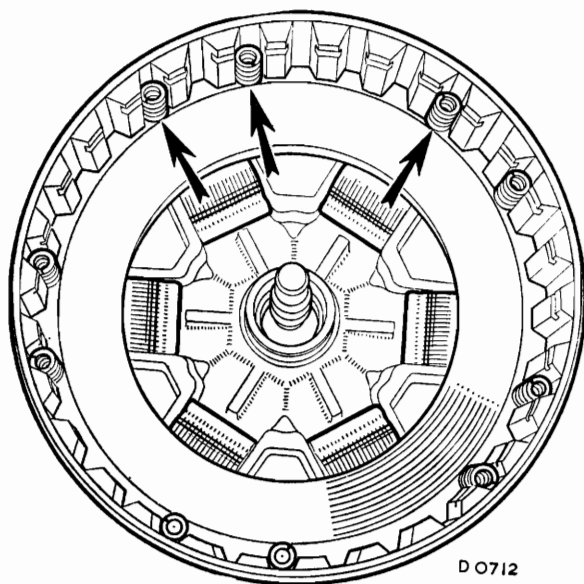

Fig. Fa.36
- (11) **30-tooth clutch.** Assemble the toggles, pressure plate, and the piston return springs as shown in Fig. Fa.36. Refit the clutch plates and the retainer plate (see Fig. Fa.35).